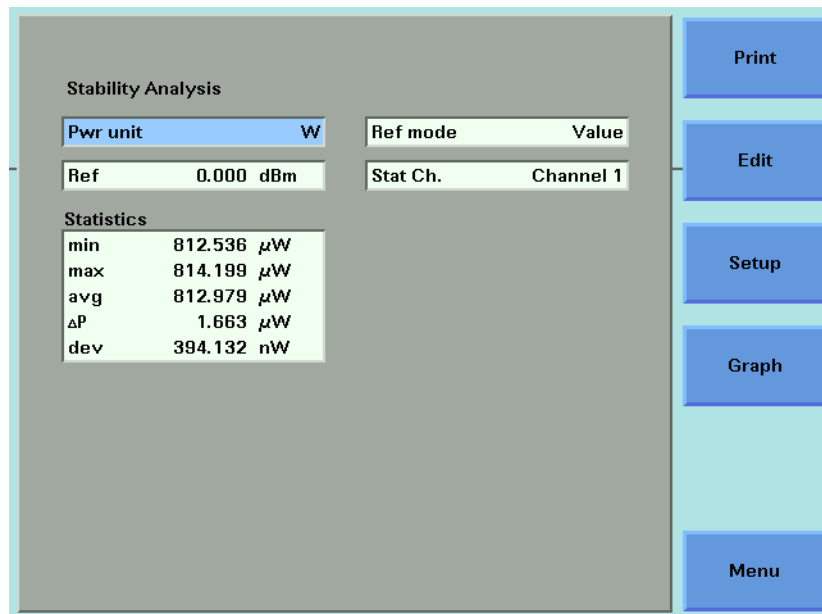

Figure 161 The Agilent 8164A/B Stability Analysis Screen
**21** Press [Analysis]. The Stability Analysis screen appears as shown in Figure 161 for the Agilent 8164A/B and Figure 161 for the Agilent 8163B.